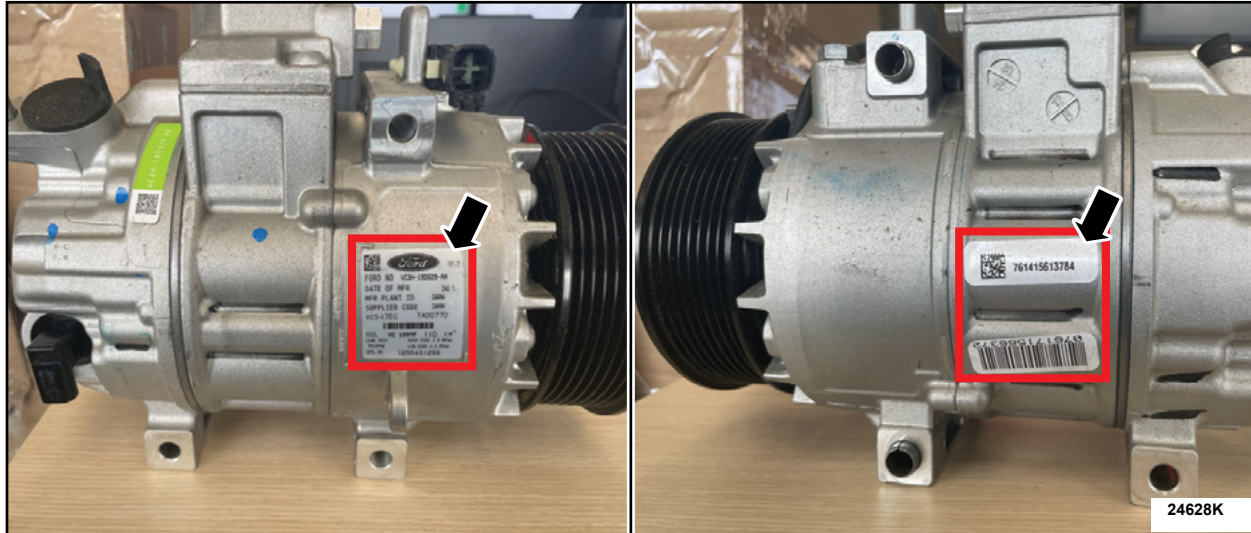

FIGURE 12
22. Take a picture of the 3 tags on the original A/C compressor and submit them with the warranty claim. See Figure 12.